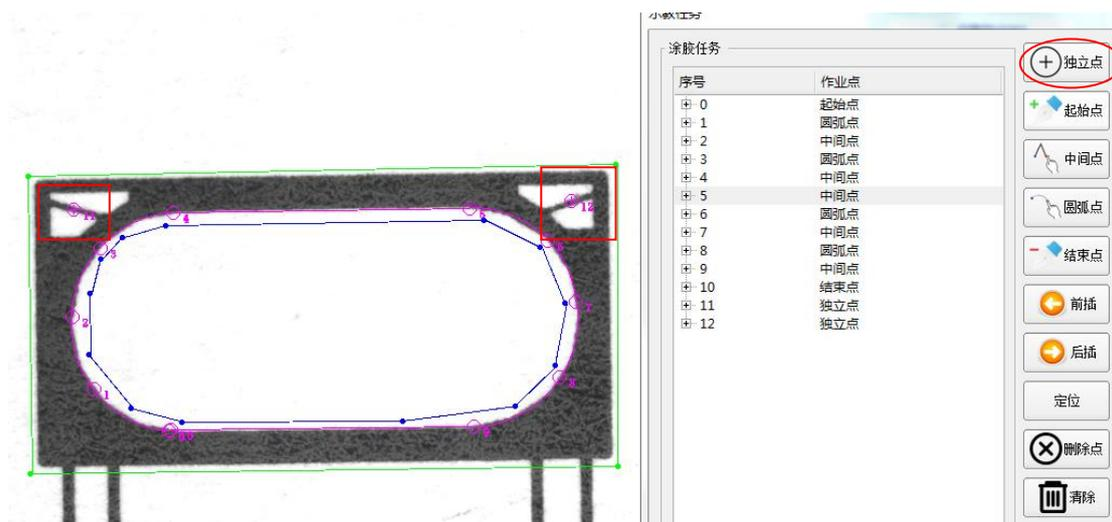

Figure 40 Independent point adding
12) if the independent dispensing point need to be added, then choose the independent point, and add it on the dispensing position, as shown in figure 40;